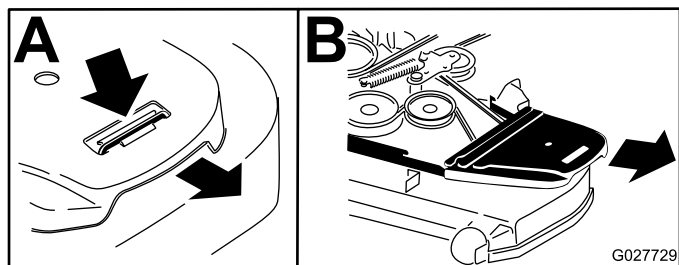

Figure 59
- Remove the belt covers (Figure 59).